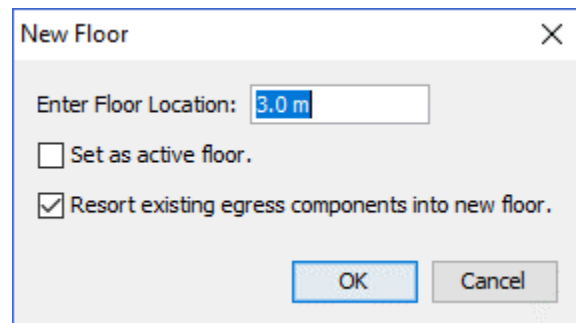

Figure 19. Floor Location Z plane
2. Enter the Z plane location (Figure 19) or click on a snap point in the 3D or 2D view and click okay. This Z plane will be used to update the drawing tools' working Z location when this floor is made active.